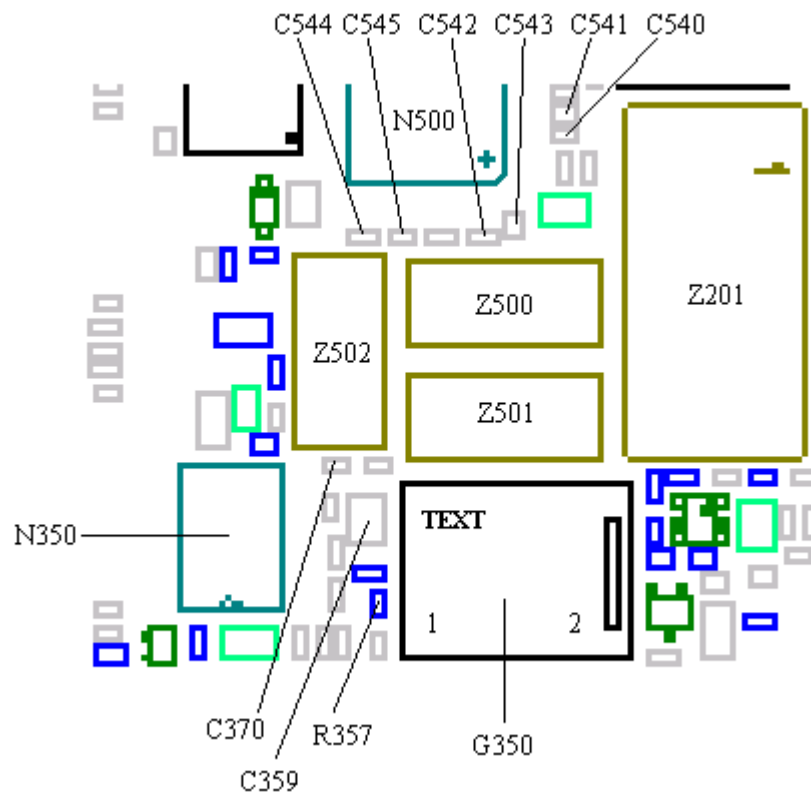
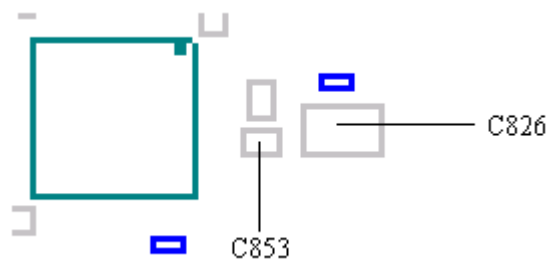

Fig. 2.3
Fig. 2.4
Look for faulty solderings at G350 and C359 (fig. 2.3).
Measure the resistance of C853 (class B, >100 kohms, fig. 2.4).
Measure the DC voltage at pin 1 and 2 of G350. The voltage at pin 1 (control voltage) should always vary between ~0.8V - ~2.8V (usually starts at ~1.7V). The voltage at pin 2 (feed voltage) also varies but usually starts at ~3.3V (fig. 2.3).
- If the control voltage is incorrect (usually ~0V or ~3.6V), check if C370 (class B) and R357 (class B) are mounted (both of them in fig. 2.3).
- * If that is the case, replace N350 (class B, fig. 2.3).
- * If that doesn't help, replace G350 (class B, fig. 2.3).
Measure the resistance of C540, C541, C542, C543, C544 and C545 (all of them class B, >200 kohms, fig. 2.3)
Check the solderings at C826 (fig. 2.4), Z201, Z500, Z501 and Z502 (fig. 2.3).
Measure the resistance of C540, C541, C542, C543, C544 and C545 (all of them class B, $>200\text{ kohms}$, fig. 2.3)